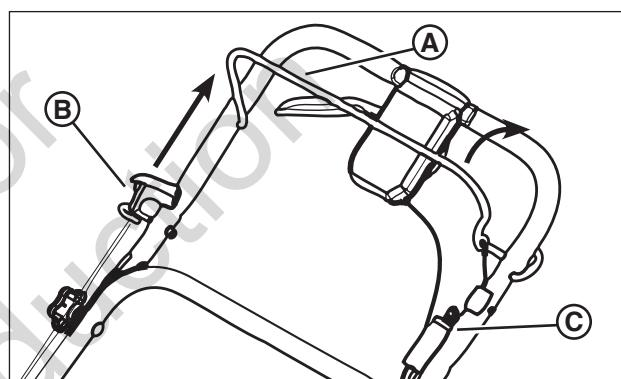

Figure 6: Starting the mower
1. Squeeze and hold the blade control (**A**, **Figure 6**) against the handle.